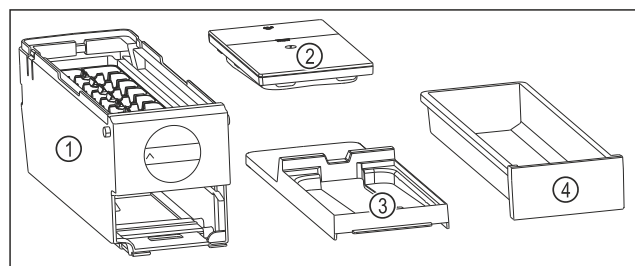

Fig. 173 Components of the EasyTwist-Ice
- ▶ EasyTwist-Ice is dismantled into four parts. (see Fig. 173)
- ▶ Only dismantle the EasyTwist-Ice into the components shown. (see Fig. 173)
- ▶ Clean the EasyTwist-Ice body Fig. 173 (1) as a whole.